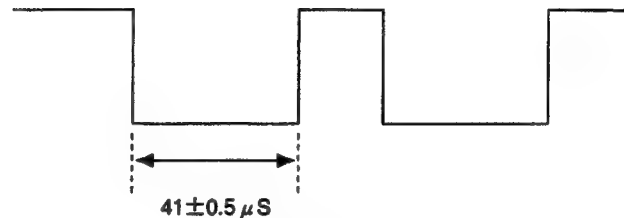

Fig.5-6
- 5) Connect the probe of an oscilloscope to IC503 ⑦ PIN. Adjust **[H DELAY]** so that the output waveform will be as shown in Fig.5-6.